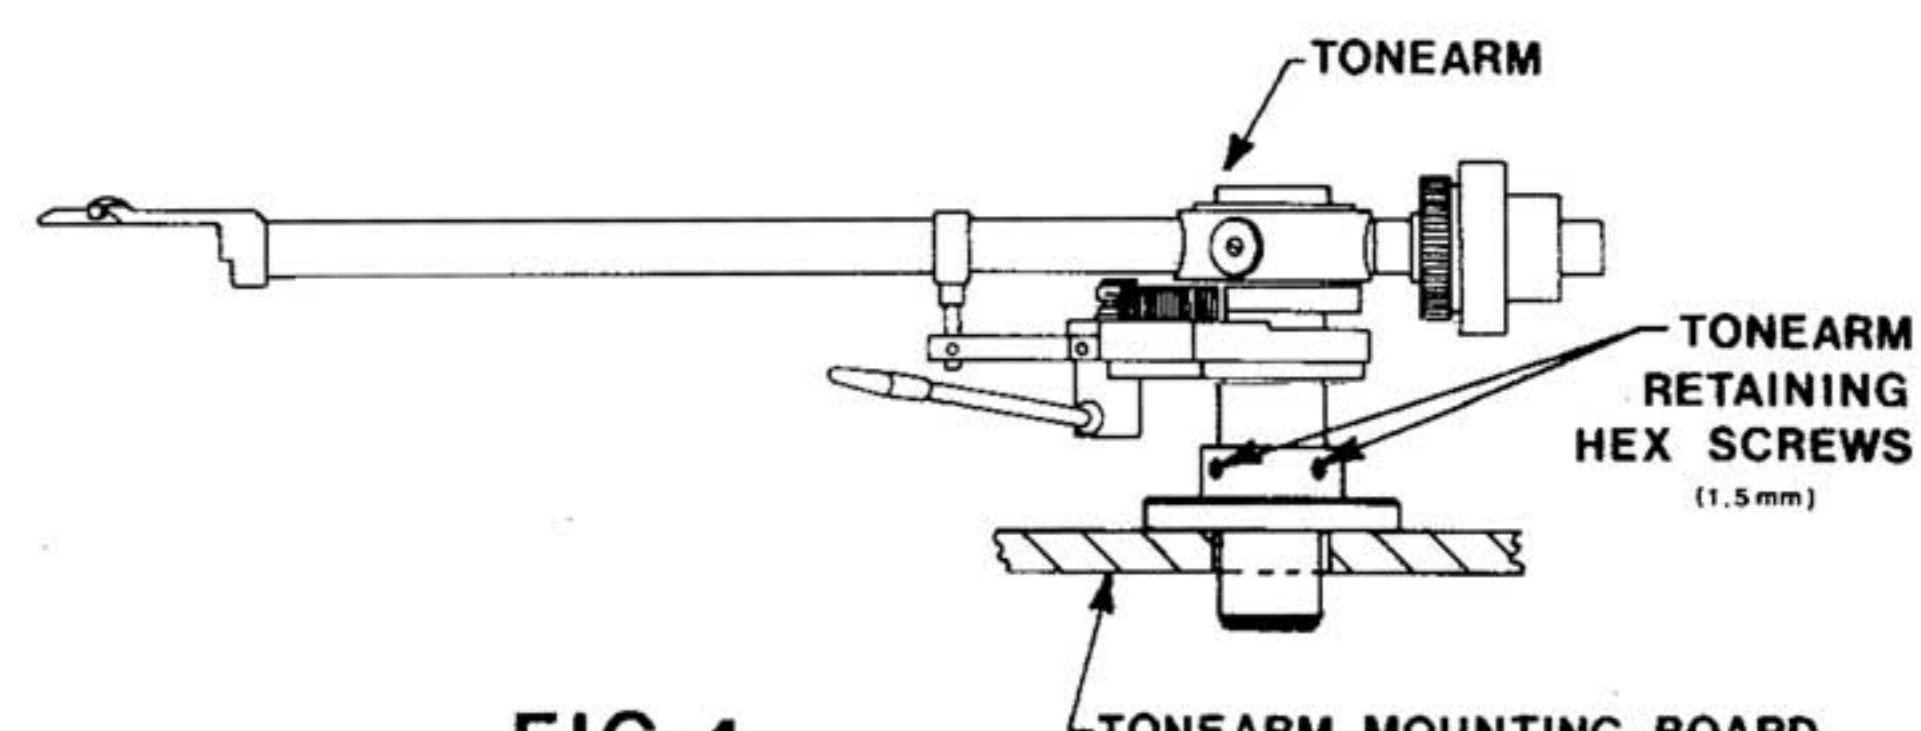

FIG. 4
(4) Adjust the tonearm so that it is parallel to the record surface when playing. Place a record on the platter and lower the tonearm onto the record. Check whether the arm is parallel to the record by viewing it at record level. If it is not parallel, place the arm back in the arm-rest and loosen the two 1.5mm allen screws in the arm base (fig 4) with the allen wrench supplied. The arm height may now be adjusted, the allen screws lightly tightened, and the position re-checked with the stylus on the record. Once the correct height is obtained, the two allen screws should be firmly tightened.